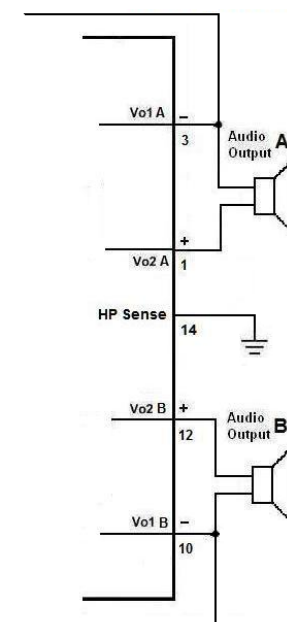

FIGURE 4. Without Headphone Circuit (QFN Type)
As outlined above driving the Speaker (BTL) and Headphone (SE) loads simultaneously using LY8662 is simple and easy. However this configuration will only work if the HP Logic pin is used to control the BTL/SE operation and HP Sense pin is connected to GND(Figure 4).